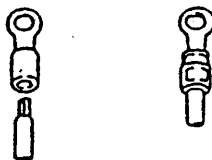

Figure 4.1 Crimp-On Lugs
- (1) Use wires or a cable for power wiring, which is equivalent to or better than 600 V vinyl insulated wires (JIS C 3307).
- (2) It is preferable to connect thermocouple wires directly to the recorder terminals. However, where the distance between thermocouples and the recorder is great, compensation lead wires can be used.*
- * It is recommended that "crimp-on" lugs (for 4 mm screws) with insulation sleeves, be used for connecting wires to terminals (see Figure 4.1).
- (3) The ground terminal should be grounded with a low ground resistance.
- (4) To minimize noise pickup: